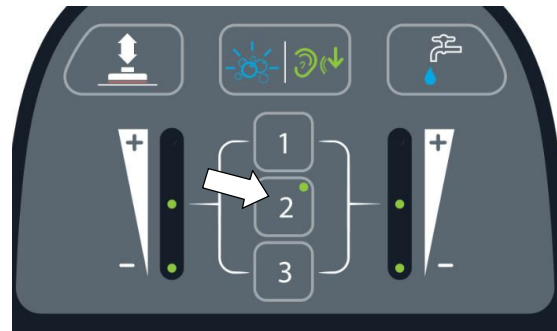

FIG. 44
6. Press the Zone Setting numbers for quick operation (Figure 44). The three preset zones are factory configured with different solution flow rates and down pressures.